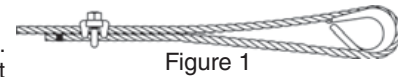

Figure 1
1. Refer to Table 1 following these instructions. Turn back specified amount of rope from thimble or loop. Apply first clip one base width from dead end of rope. Apply U-Bolt over dead end of wire rope – live end rests in saddle (Never saddle a dead horse!). Use torque wrench to tighten nuts evenly, alternate from one nut to the other until reaching the recommended torque. (See Figure 1)